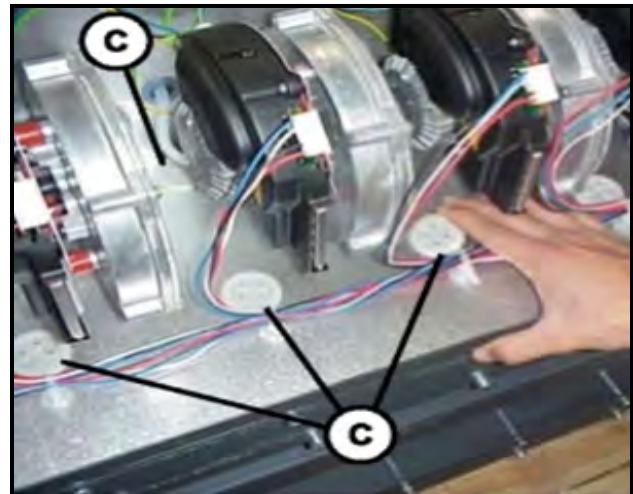

Figure 5: Remove Plastic Bolt Covers (C)
6. Remove the plastic cap bolt covers (**C**) from the bottom of the fan chamber to access the bolts holding the fan assembly in place (**Figure 5**).